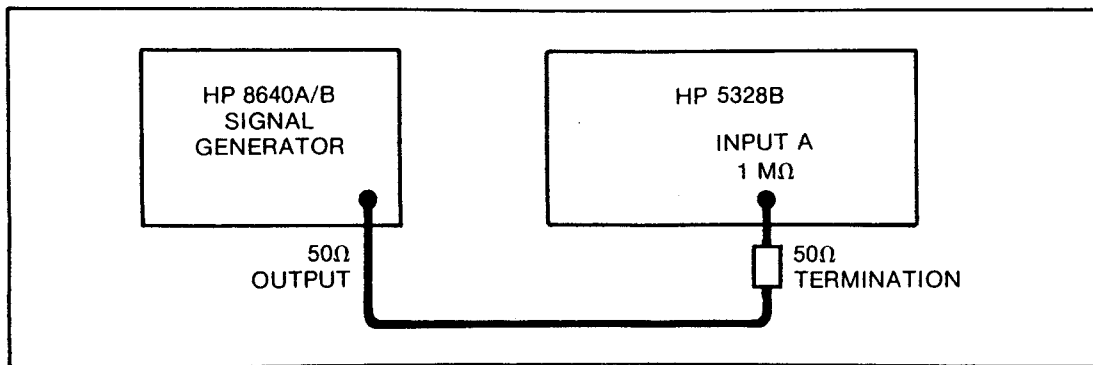

Figure 4-8. Channel A Frequency Response and Sensitivity Test Setup, 10 MHz to 100 MHz
- 1) Set up equipment for this test as shown in *Figure 4-8*.